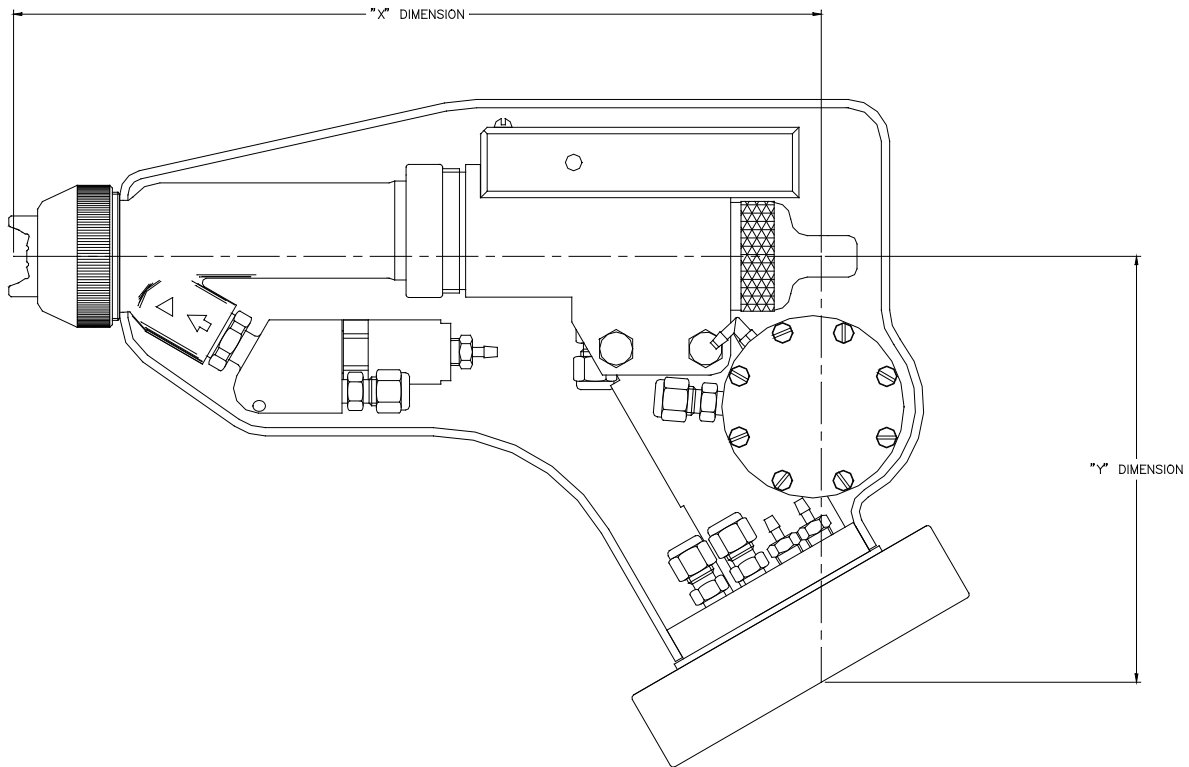

Figure 2: Applicator Tool-Point Representation REA 9000R Automatic
► To allow for ease of configuration, operation, and modification of robot teach patterns, the following X/Y vertices are provided (refer to Figure 2 for explanation of coordinates). Optimum spray pattern is achieved at a distance of 10 - 14 inches from tip.